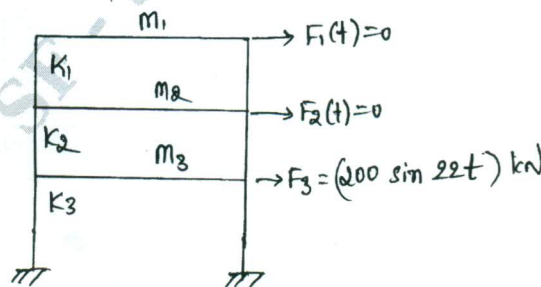

Fig Q8
- 8 For a three storeyed shear building subjected to harmonic loading (Fig Q8), compute the response, given the results of the free vibration analysis. Neglect axial deformities in all structural elements. Given: Stiffness of floor : $K_1 = K_2 = 160 \times 10^6 \text{ N/m}$; $K_3 = 240 \times 10^6 \text{ N/m}$. Mass of the floor : $M_1 = M_2 = M_3 = 20 \times 10^3 \text{ kg}$ (or Ns^2/m). The natural frequencies are $\omega_1 = 43.87 \text{ rad/s}$, $\omega_2 = 120.15 \text{ rad/s}$, $\omega_3 = 167 \text{ rad/s}$.